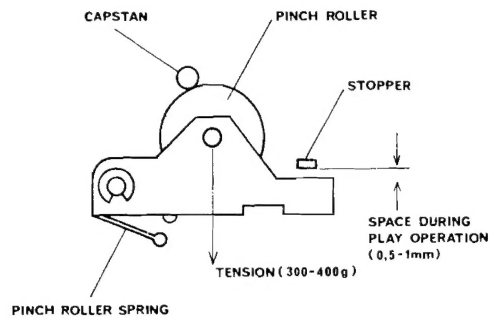

Fig. 16
1. Refer to Fig. 16 for adjustment of Pinch Roller tension when in the Play position.